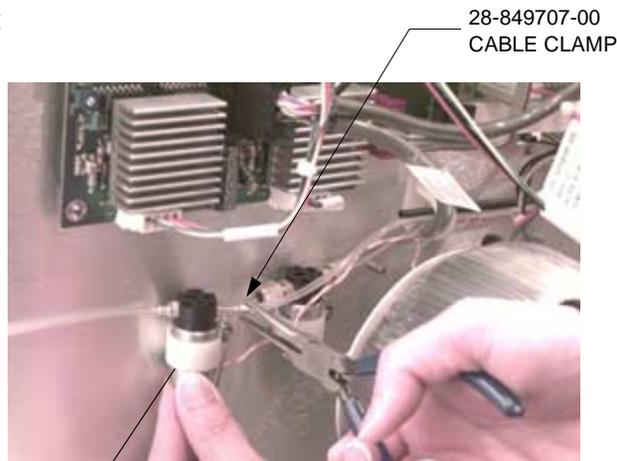

FIGURE 1.12.3
- 1.12.3 Feed black/clear tubing from the XYZ assembly through the middle cut-out of the divider panel assembly and cable calmps. Separate the tubings, then install clear tubing to right port of the gripper solenoid *the one on the left* with Cable Clamp (28-849707-00) as shown in figure 1.12.3. The black tubing does not connect to anything. Cut the extra clear and black tubing if needed.